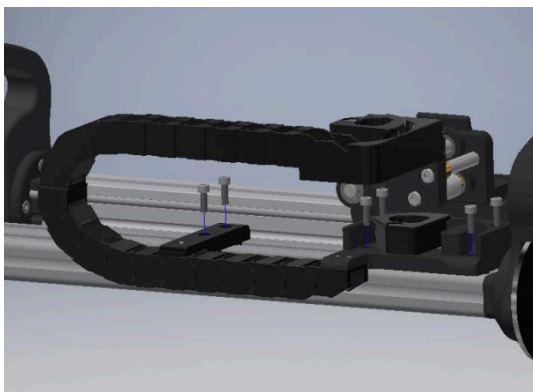

Figure 1
- 2) Remove the 6 M4x12 SHCS from the Track Brace and Lower Bulkhead Assembly (Figure 1)